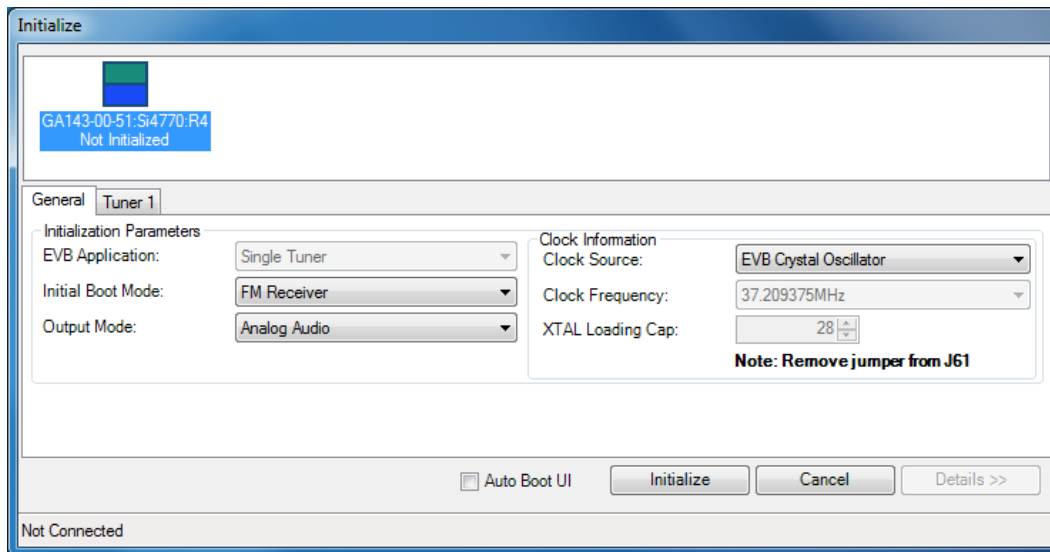

Figure 7. Initialization Window
2. Configure initialization options as shown in Figure 7. “Initialization Window”. A number of powerup options are available: